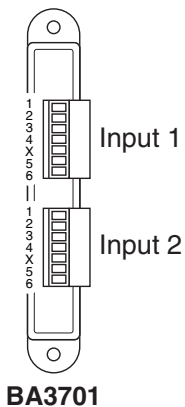

Fig 3 Input terminals
3. Connect field wiring to each of the two removable input terminal blocks. Both the inputs are identical as shown in Fig 3. Each of the two inputs is a separate intrinsically safe circuit and field wiring should comply with segregation requirements specified in IEC / EN 60079-14. If a multicore cable is used for the inputs, it should have Type A or B construction as specified in Clause 16.2.2.7 of IEC / EN 60079-14 Wiring should be supported to avoid damaging the module's terminals.